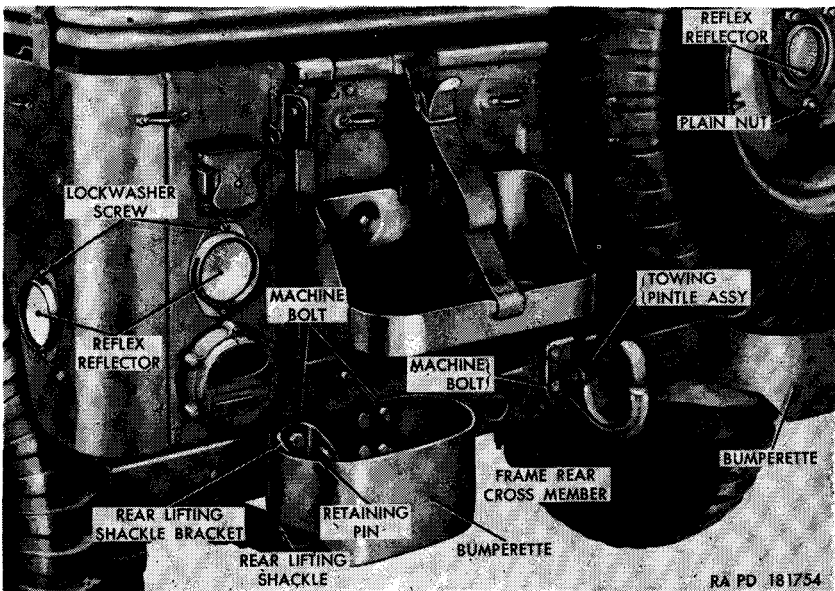
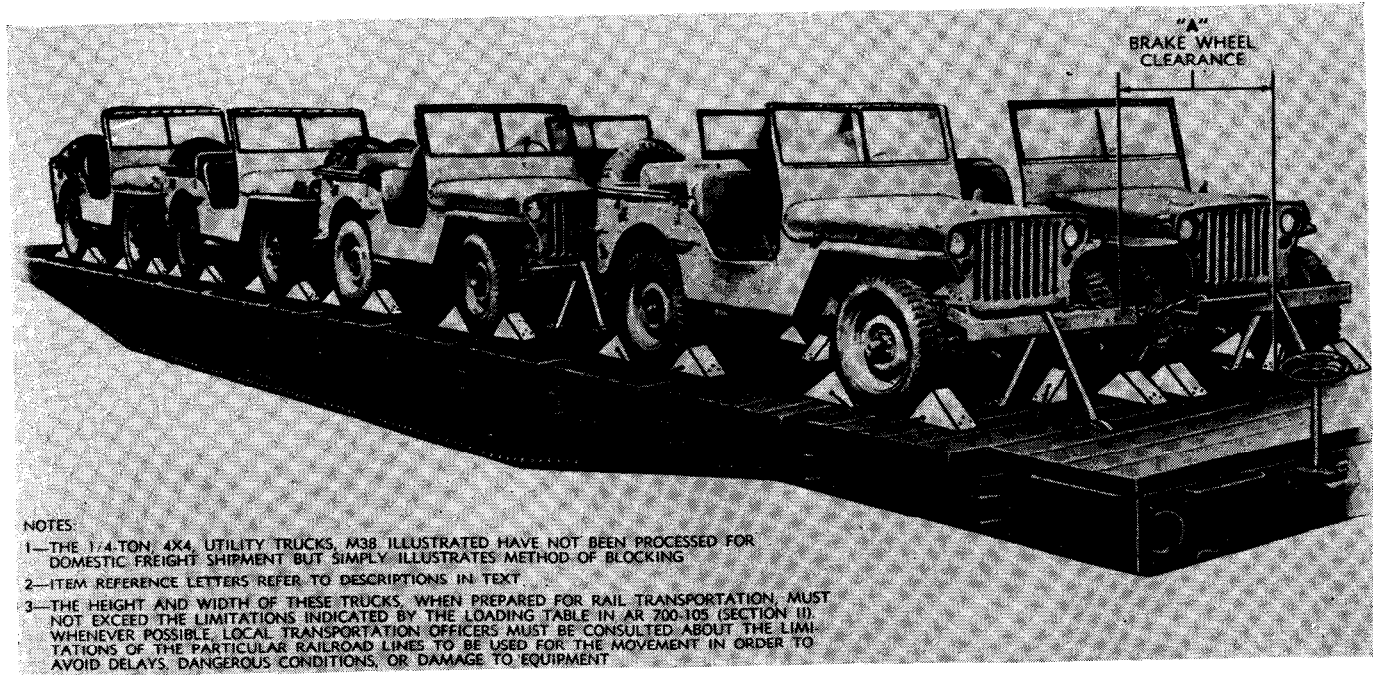
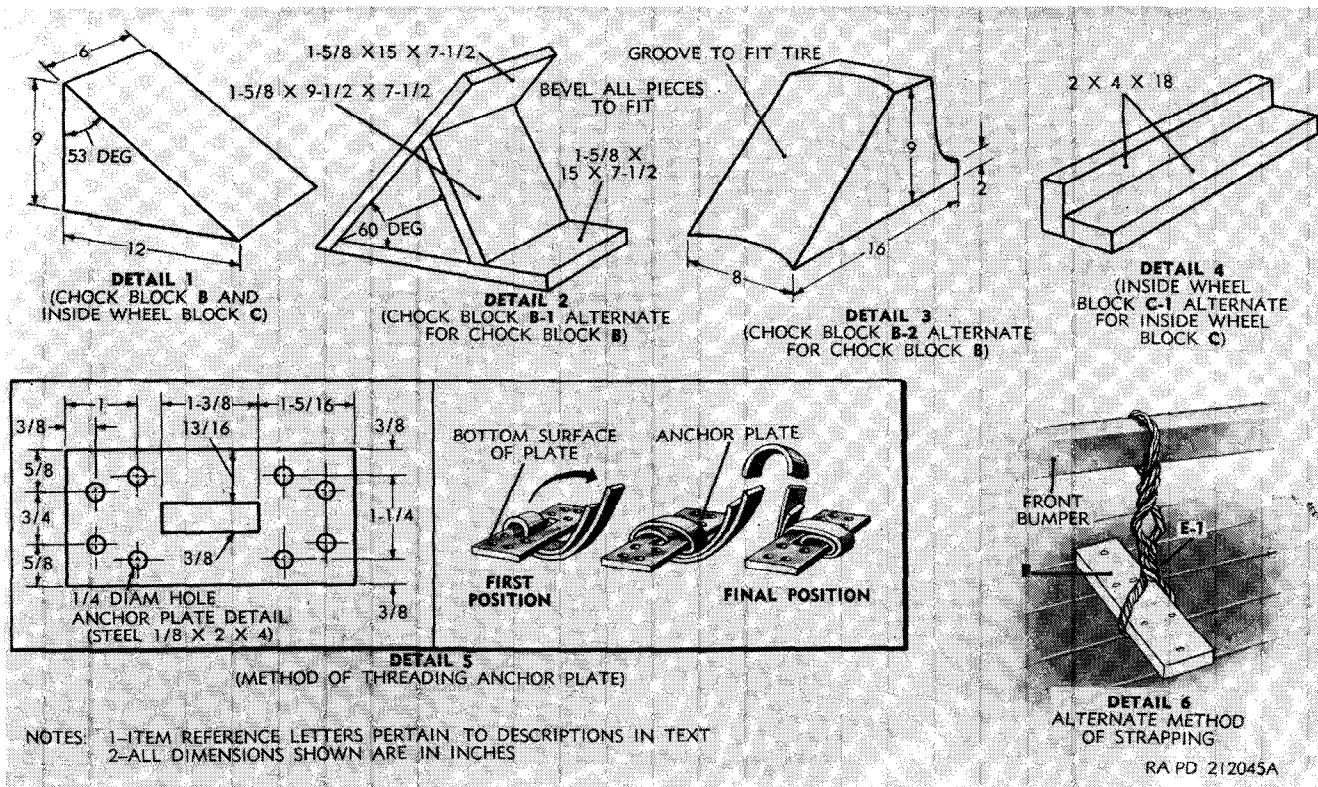

Figure 132. Bumperettes, rear lifting shackles, towing pintle assembly, and reflex reflectors.
Figure 136. Methods of blocking the 1/4-ton 4x4 utility trucks M38 on flatcars.
Figure 137. Methods of blocking the 1/4-ton 4x4 utility trucks M38 on flatcars (details)—Continued.
b. Rear Lifting Shackles with Brackets (fig. 132).
- (1) *Removal.* Pull the retaining clip out of the retaining pin. Withdraw the pin from the shackle bracket and remove
- (2) *Installation.* Position the shackle bracket inside the bumperette. Push two $\frac{1}{2} \times 1\frac{1}{4}$ bolts through the shackle bracket, bumperette, and frame rear cross member and install two $\frac{17}{32}$ -inch flat washers, $\frac{1}{2}$ -inch lockwashers, and $\frac{1}{2}$ -inch plain nuts. Place the shackle in the bracket, insert the retaining pin through the bracket and shackle, and install the retaining clip through the end of the pin.
c. *Towing Pintle* (fig. 132).
- (1) *Removal.* Remove the four nuts, lockwashers, and bolts securing the towing pintle to the frame rear cross member and remove the pintle.
- (2) *Installation.* Position the towing pintle on the frame rear cross member and secure in position with four $\frac{1}{2} \times 1\frac{7}{8}$ bolts, $\frac{1}{2}$ -inch lockwashers, and $\frac{1}{2}$ -inch nuts.
a. Bumper Bar (fig. 136).
- (1) *Removal.* Remove the front lifting shackles and shackle brackets (par. 267a(1)). Remove the six plain nuts, lockwashers, and bolts securing the bumper bar to the frame side rails and remove the bumper bar.
- (2) *Installation.* Position the bumper bar at the front of the vehicle, aligning the mounting holes in the bar with the mounting holes in the frame side rails. Secure the bar to the side rails with six $\frac{3}{8}$ x $\frac{3}{4}$ bolts, $\frac{3}{8}$ -inch lockwashers, and $\frac{3}{8}$ -inch plain nuts. Install the front lifting shackles and shackle brackets (par. 267a(2)).
b. *Bumperettes* (fig. 132).
- (1) *Removal*. Remove rear lifting shackle (par. 267b(1)). Remove the two plain nuts, lockwashers, and bolts securing the bumperette to the frame rear cross member and remove the bumperette.
- (2) *Installation*. Position the bumperette on the frame rear cross member and secure in position with two $\frac{1}{2}$ x $\frac{7}{8}$ bolts, $\frac{1}{2}$ -inch lockwashers, and $\frac{1}{2}$ -inch plain nuts. Install the rear lifting shackle (par. 267b(2)).
270. Reflex Reflectors (fig. 132)
Association of American Railroads. Additional blocking may be added, as required, at the discretion of the officer in charge. Double-headed nails may be used, except in the lower piece of two piece cleats. All reference letters in *b* through *e* below refer to details and locations in figures 136 and 137. The number of vehicles to be loaded will depend upon the length of flatcar.
Note. Three methods of blocking are given herein; the method to be used will depend on dimensions of flatcars and availability of required blocking materials. The instructions herein are for vehicles, double-loaded, as shown in figure 136. Vehicles may be single-loaded, double-deck loaded, or incline-loaded (with the front wheels of the second vehicle positioned in the rear body of the first vehicle and the front wheels of the third vehicle positioned in the rear body of the second vehicle, etc).
Note. Alternate type B-1 or B-2 chock blocks may be constructed as shown in details 2 and 3, figure 131, and located against tires as shown in details 1 and 2, figure 136. Single-loaded vehicles require chock blocks at the front and rear of all four wheels.
- (2) *Inside wheel blocks "C"* (6 x 9 x 12, four rqr per truck constructed as shown in detail 1, fig. 137). Locate the 6 x 9 surface of block flush against the inside of each wheel, as shown in figure 136. Nail heel of each block to car floor with four forty-penny nails and toenail each side to floor with one forty-penny nail.
Note. Alternate type inside wheel blocks C-1, may be constructed as shown in detail 4, figure 137, and located against tires as shown in detail 2, figure 136. When inside wheel blocks C-1 are used, cushioning material "D" (wtrprf paper or burlap) will be placed between blocks C-1 and inside of tire. The material should extend 2 inches beyond block on car floor and 2 inches above block against side of tire.
- (3) *Vehicle strapping "E" (1 in. No. 14 BW ga, hot-rolled steel, lgh to suit, two rqr per truck).* Locate strapping "E" over front bumper of vehicle and through rear pulling hook of vehicle, as shown in figure 136. Pass strapping through two anchor plates (detail 5, fig. 137) and nail anchor plates to car floor with eight twentypenny nails. Substitute, if desired, four strands of No. 8 gage, black annealed wire, E-1, twist-tie to form cables. Pass the cable over the bumper or through the pulling hook underneath and around random 2 x 4 cleat "F" (detail 6, fig. 137). Nail cleat lengthwise to car floor and twist-tighten cables to remove all slack.
- (4) *Vehicle ties "G" (6 strands, 3 wrappings, No. 8 ga, black anld wire, lgh to suit).* Pass cables around frame (bumpers, hooks, brackets, etc.) at front and rear of every two side-by-side vehicles as shown in figure 136. Twist-tighten cables to remove all slack.
- (1) *Wheel cleats "N" (4 in. wd, 6 in. high, 8 in. longer than width of car, four rqr per truck).* Locate a cleat "N" across the front and rear of front and rear wheels as shown in detail 3, figure 136, and toenail each to car floor with four thirtypenny nails.
- (2) *Wheel supports "Q" (2 x 4, 2 in. longer than distance between outside faces of cleats "N", four rqr per truck).* Locate the two-inch side of support "Q" against each side of car floor. Secure each end to cleats "N" with 1/2-inch diameter bolt, nut, and washer, as shown in detail 3, figure 136.
- (3) *Wheel cleats "J" (2 x 4, 2 in. longer than distance between outside faces of cleats "N", four rqr per truck).* Locate cleat "J" across top cleats "N" with sides of cleats "J" flush against inside of tires, as shown in detail 3, figure 136. Nail end of each cleat "J" to cleats "N" with three twentypenny nails.
- (4) *Support cleats "P" (2 x 4 x 18, eight rqr per truck).* Locate four cleats "P" equidistant across car floor, with ends flush against cleats "N", as shown in detail 3, figure 136. Nail cleat to car floor with four thirtypenny nails. Locate one cleat on top of each lower cleat and nail with four thirtypenny nails.
and nail to car floor with ten thirtypenny nails; locate a cleat on each lower cleat and nail with ten thirtypenny nails as shown in detail 4, figure 136.
- (2) *Wheel side cleats "J"* (2 x 4, lgh 4 in. longer than distance between outer face of cleats "H," four rqr per vehicle). Locate a cleat "J" against inside or outside of wheels as shown in detail 4, figure 136, and nail each end to cleats "H" with three twentypenny nails.
- (3) *Intermediate cleats "K"* (2 x 4, eight rqr per vehicle). Locate a cleat "K" on top of cleats "H," with end flush against cleat "J," and nail to cleats "H" with two twentypenny nails as shown in detail 4, figure 136.
- (4) *Upper cleat "L"* (2 x 4, lgh to equal cleats "H", four rqr per truck). Locate a cleat "L" across cleats "J" and nail to cleats "J" and "K" with three twentypenny nails at each end as shown in detail 4, figure 136.
- (5) *End cleats "M"* (2 x 4 x 18, total of eight rqr). Locate a cleat "M" on car floor at each end of load, with end flush against cleat "H," near each side of car, and secure with four thirtypenny nails. Locate one cleat "M" on top of each lower cleat and secure with four thirtypenny nails as shown in detail 4, figure 136.